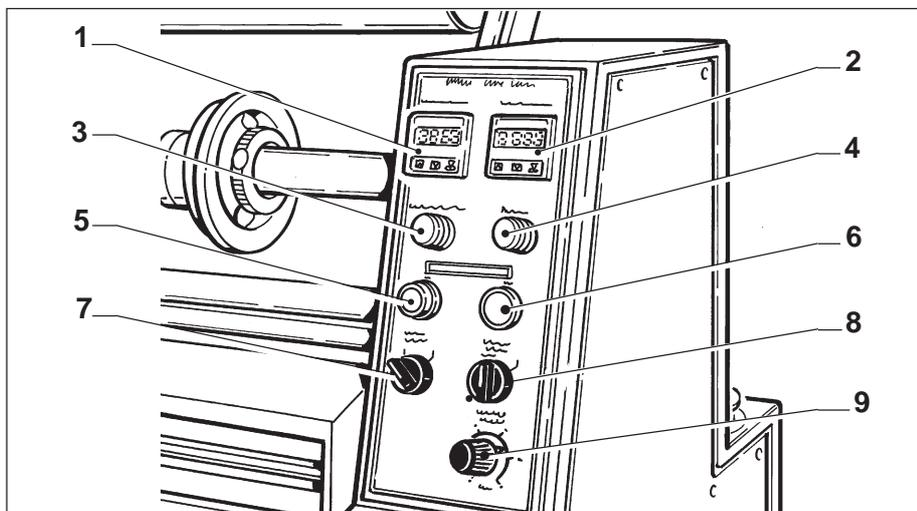

Fig.6 - CONTROL PANEL
- **“SET-UP” - “OFF” button (pos. 6 - fig. 6)**
- **“ROLL CLOSING” selector (pos. 7 - fig. 6)**
- **“ROLLS ROTATION” selector - “BACKWARD/STOP/FORWARD” (pos. 8 - fig. 6)**
- **CONVEYOR SPEED potentiometer (pos. 9 - fig. 6)**